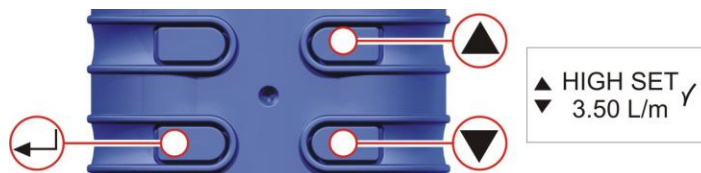

Figure 25 High Set Screen
**K. ADJUSTMENT OF HIGH SET POINT (Fig. 25)**